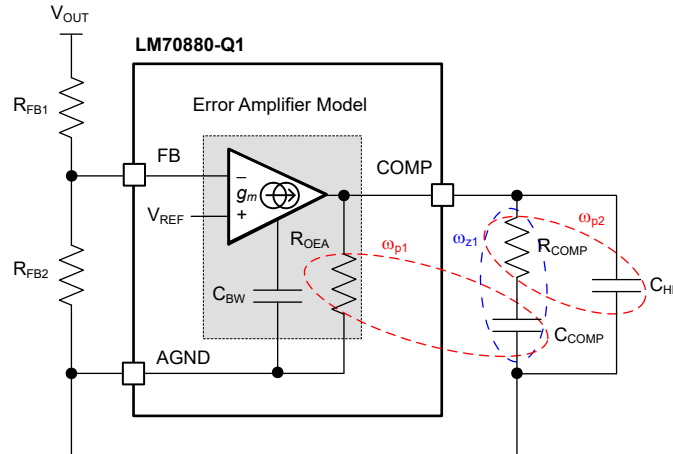

图 8-3. Error Amplifier and Compensation Network
A Type-II compensator using a transconductance error amplifier (EA) is shown in 图 8-3. The dominant pole of the EA open-loop gain is set by the EA output resistance,  $R_{\text{OEA}}$ , and effective bandwidth-limiting capacitance,  $C_{\text{BW}}$  as shown by 方程式 24.
The EA compensation components create a pole close to the origin, a zero, and a high-frequency pole. Typically,  $R_{COMP} \ll R_{O-EA}$  and  $C_{COMP} \gg C_{BW}$  and  $C_{HF}$ , so the approximations are valid. 图 8-3 circles the poles in red and the zero in blue.